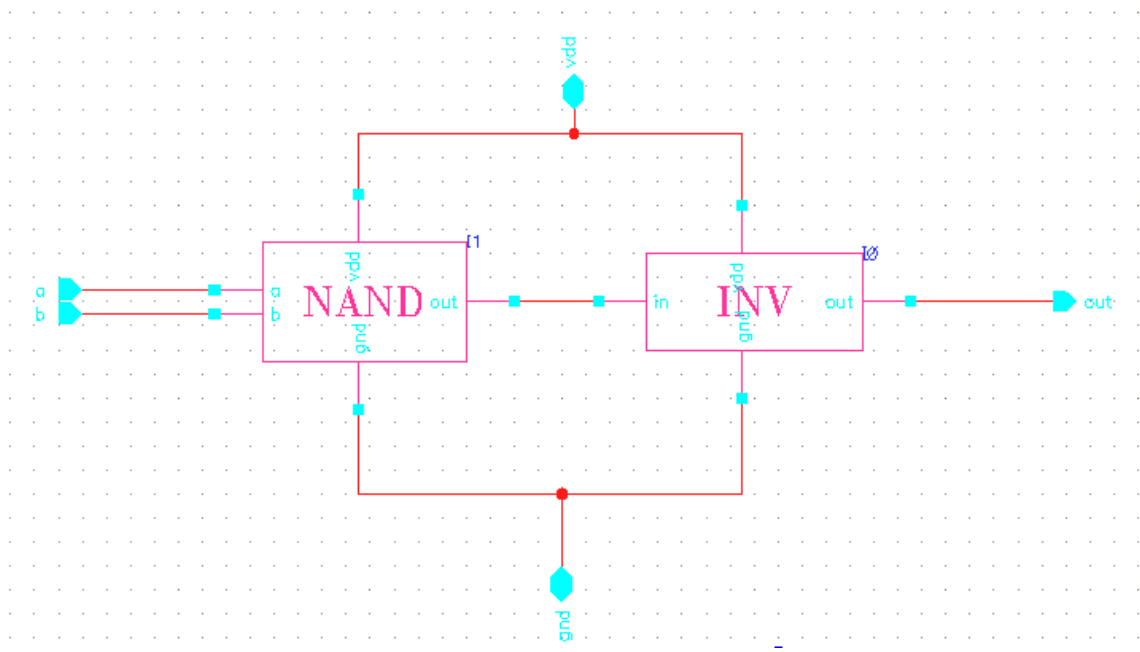

Figure 3: A schematic illustration of the *And* gate.
1. Design an **And** gate in schematic view as shown in Figure 3.